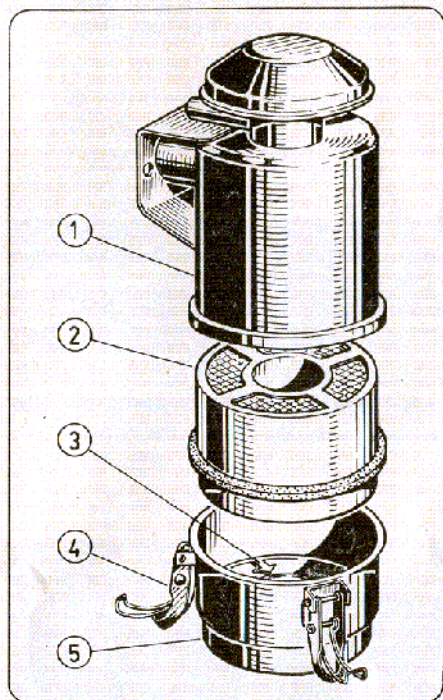

Fig. 9
**Disassembly and cleaning of the oil bath air filter,** (of the standard supply type) fig. 9.